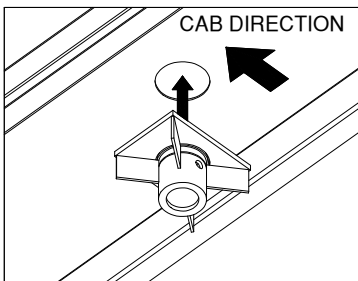
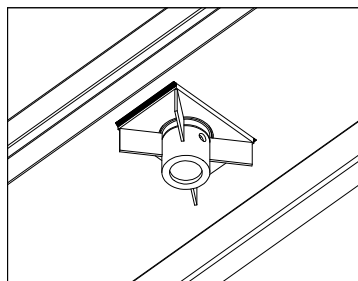

Figure 2
Figure 3
- 2. Install the socket.** Fit the socket into the four-inch hole as shown in Figure 2. Position the 1/2" plate so it is flat against the floor of the bed. Weld the two sides of the 1/2" plate that do not have the holes for the latch pin handle, see Figure 3.